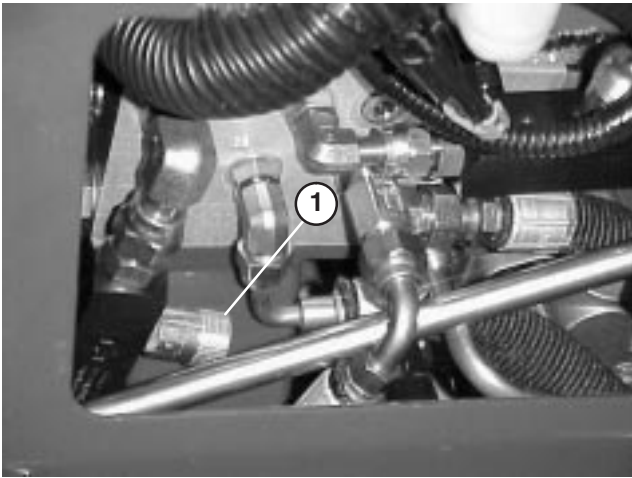

Figure 56
1. Locate valve on right side of lift block (Fig. 56).